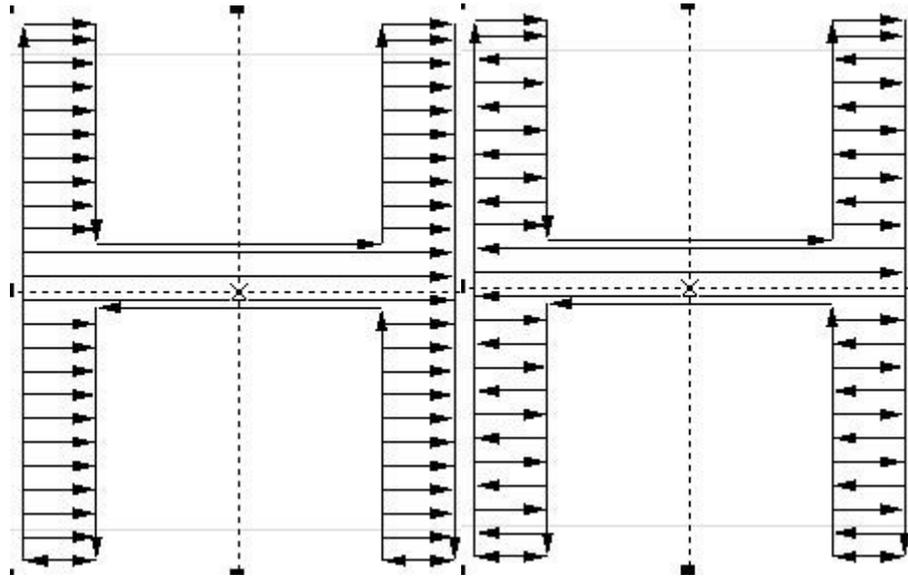

Fig.3-7 Left is Unidirectional Hatch filling, Right is Bidirectional Hatch filling
**Unidirectional filling:** Fill lines always fill from left to right. As shown on the left of figure 3-7.
**Bidirectional filling:** Fill lines are filled from left to right, then right to left, and the rest are filled in cycles. As shown on the right of figure 3-7.